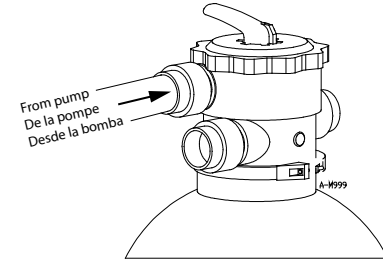

Figure 2
2. Glue the pipe from the pressure side of the pump to the slip-fitted side of the union leading to the valve port marked PUMP (Figure 2).